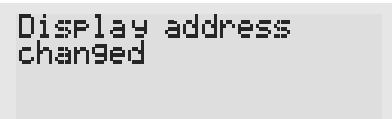

Рис. 4
- Use the ↓ buttons to select the desired value, and confirm by pressing ↓ again. If the value selected is not the same as the one saved previously, the screen shown in Fig. 4 will be displayed, and the new value will be saved to the permanent memory.